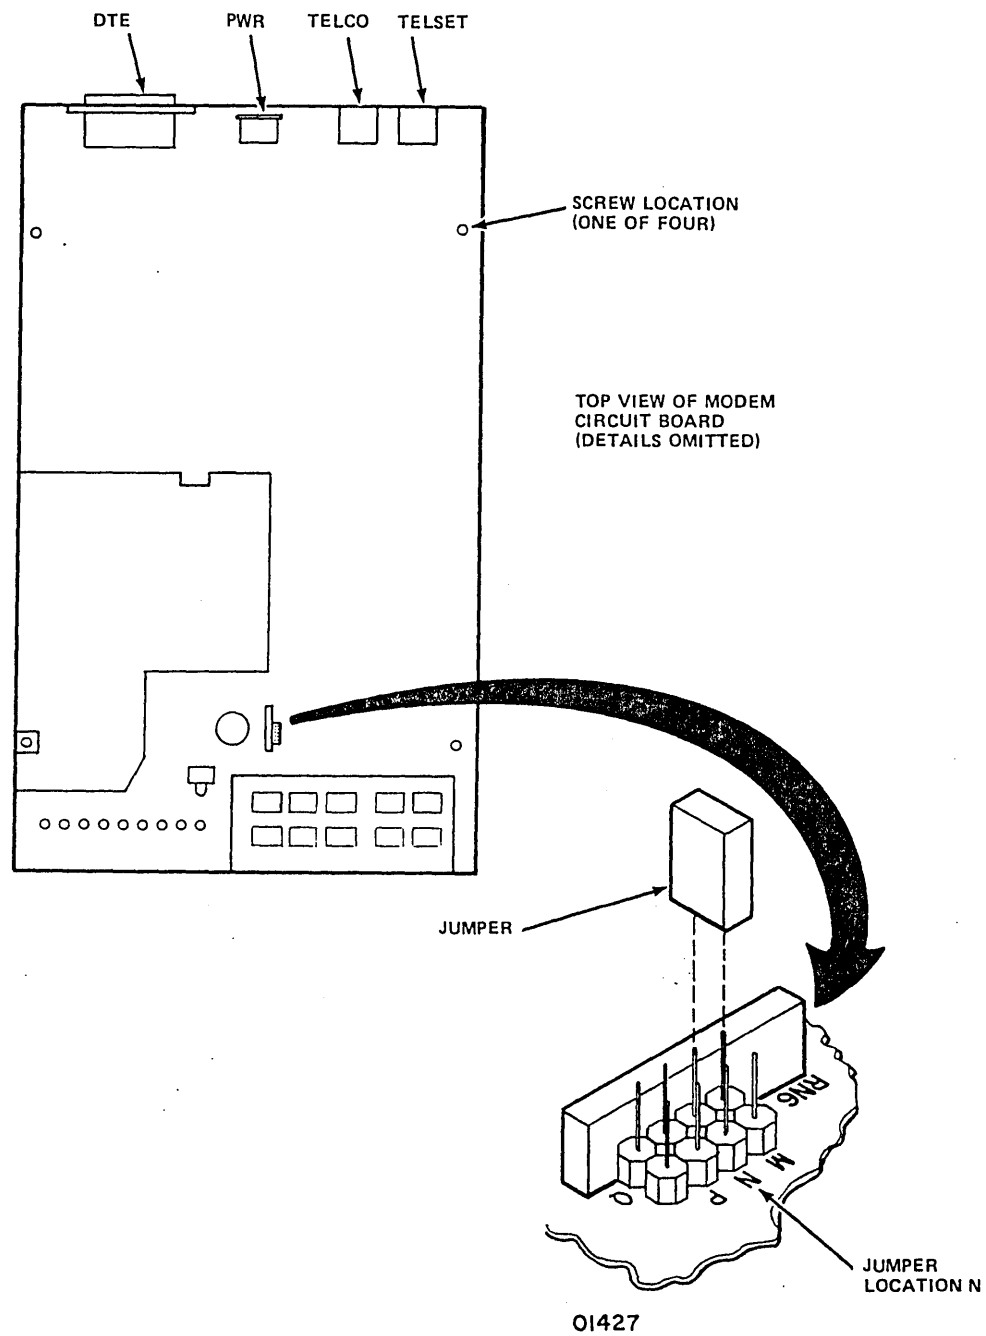

Figure 6-7. Modem Circuit Board
- ___ 6. Locate jumper location N on modem circuit board (figure 6-7).